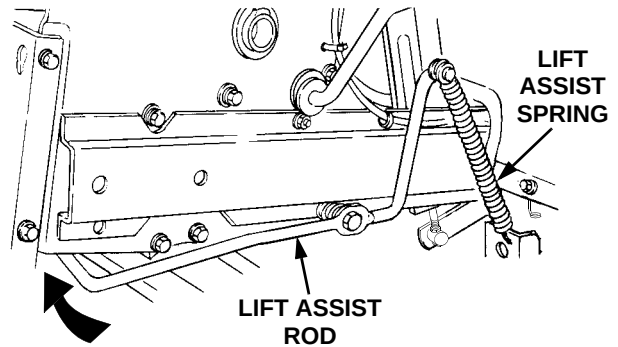

Figure 48
21. Tension the lift assist spring by pushing downward and then inward on the rear of the lift assist rod so that the flange at the rearward end of the rod locks inside the tractor frame (See Figure 48).